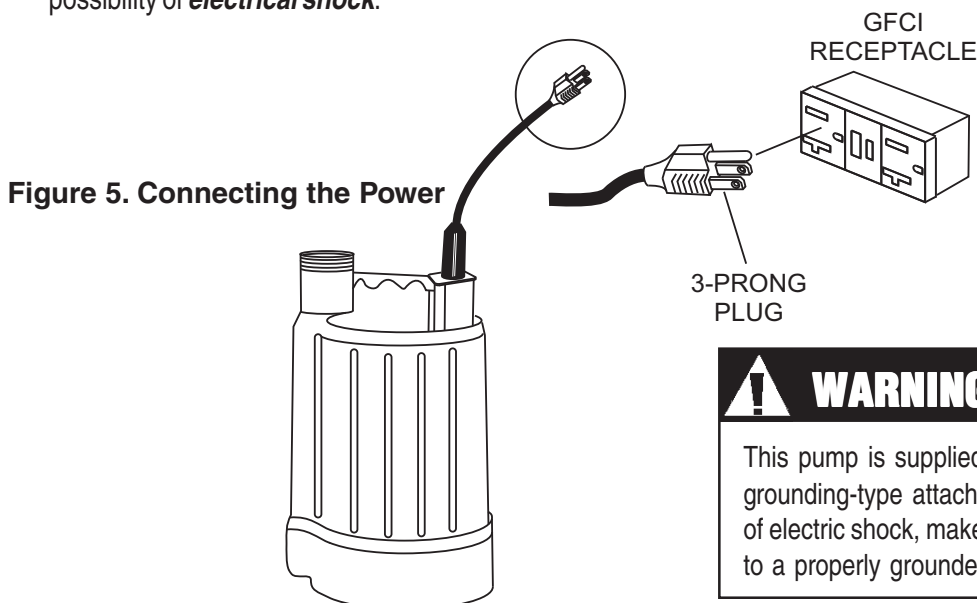

Figure 5. Connecting the Power
3. If all of the pump's electrical requirements have been met, insert the power plug (Figure 5) on the pump into the power source receptacle. Make sure the extension cord is of proper size, see Table 3. It is **recommended** that the pump's power cord be plugged into a **GFCI receptacle** to prevent the possibility of **electrical shock**.